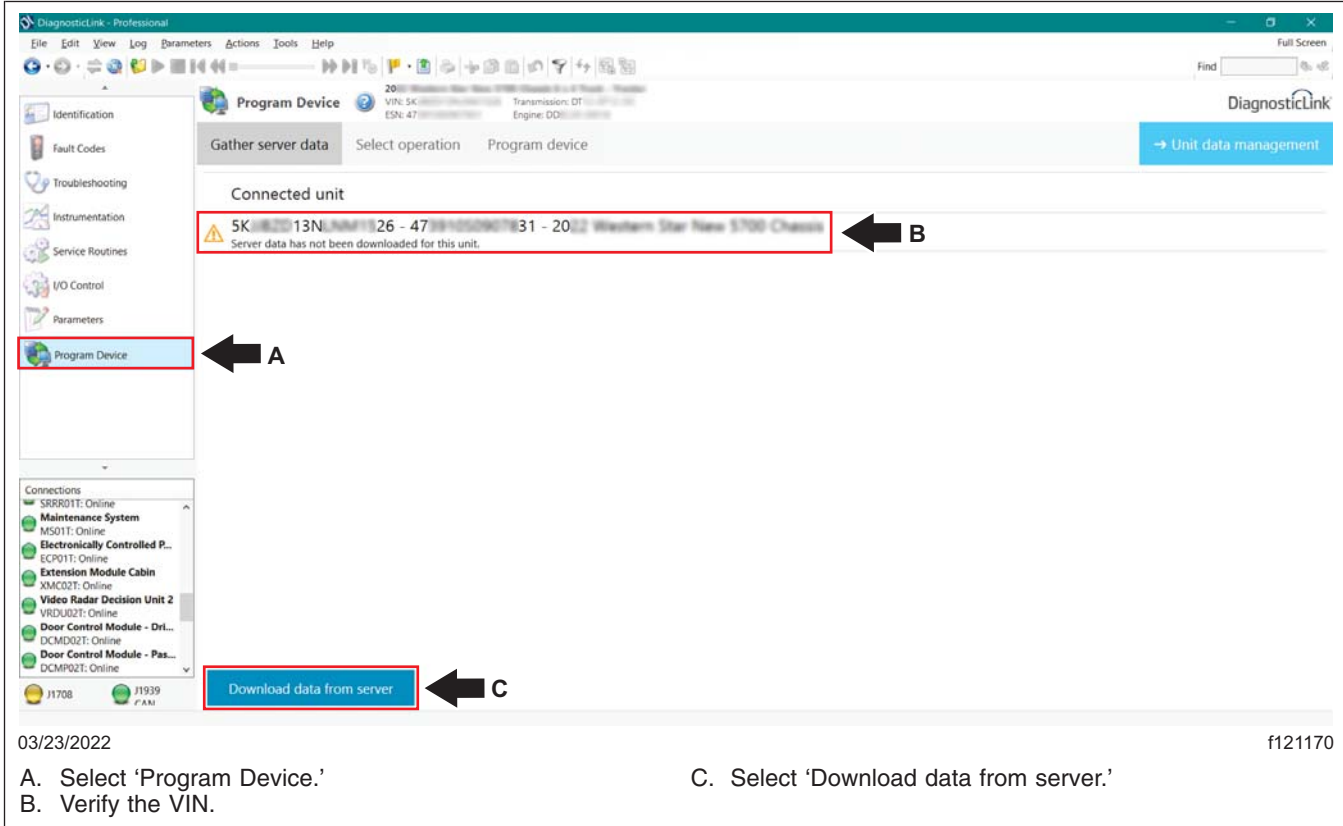

Fig. 1, Downloading Data from the Server
5. Go to 'Program Device,' and make sure that the vehicle identification number (VIN) is correct. Select 'Download data from server.' See Fig. 1.